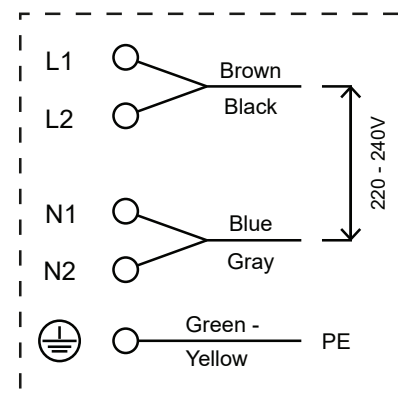
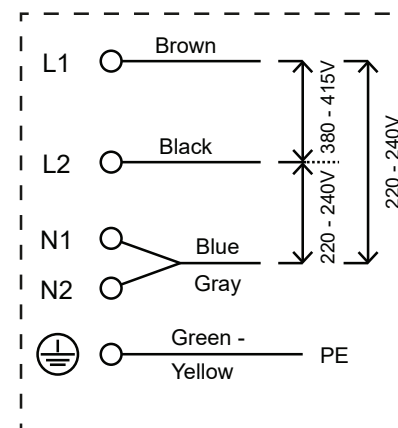

Fig. 9
Fig. 10
- The hob is already supplied with a mains cable. In case it is necessary to replace the mains cable due to damage, Fig. 9 or Fig. 10, shows the wiring of the terminal box.